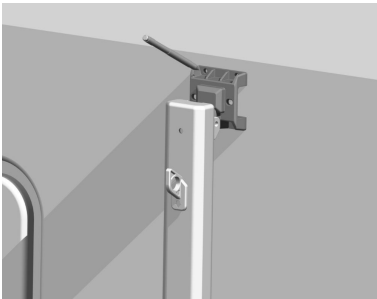
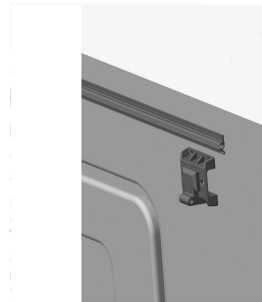

Figure C6
Figure C7
3.2 Take the support arm, use it mark the hole position at a suitable position on the outside of the vehicle (Figure C6), and drill a $\Phi 5$ installation hole on the vehicle body (Figure C7).